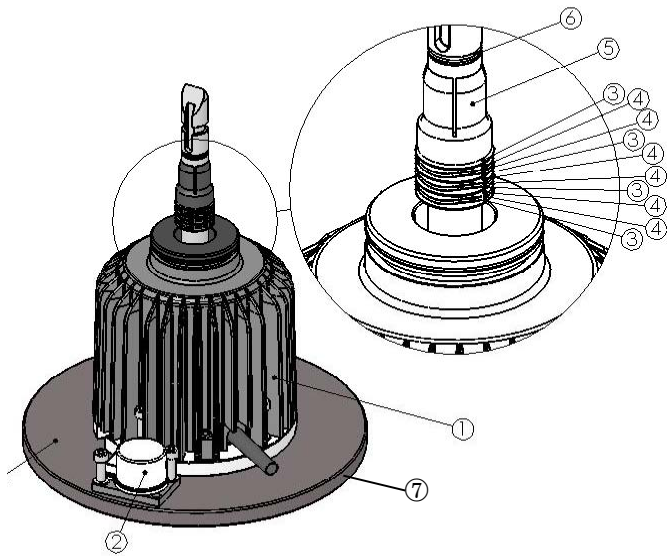

Fig. 21
| See Fig. 21 | | | |
| Fig. 21 | 11250202 | Motor assy | 1 |
| Fig.21 - ③④⑤⑥ | 11250172 | Shaft accessory Kit | |
| Fig.21 - ③ | | Flat washer (thickness 0.5) | 4 |
| Fig.21 - ④ | | Spring washer | 6 |
| Fig.21 - ⑤ | | Plastic Centering device | 1 |
| Fig.21 - ⑥ | | O-Ring | 1 |
| Fig.21 - ② | 39902739 | Imbalance detector | 1 |
| Fig.21 - ⑦ | 11200508 | Motor Counterweight | 1 |